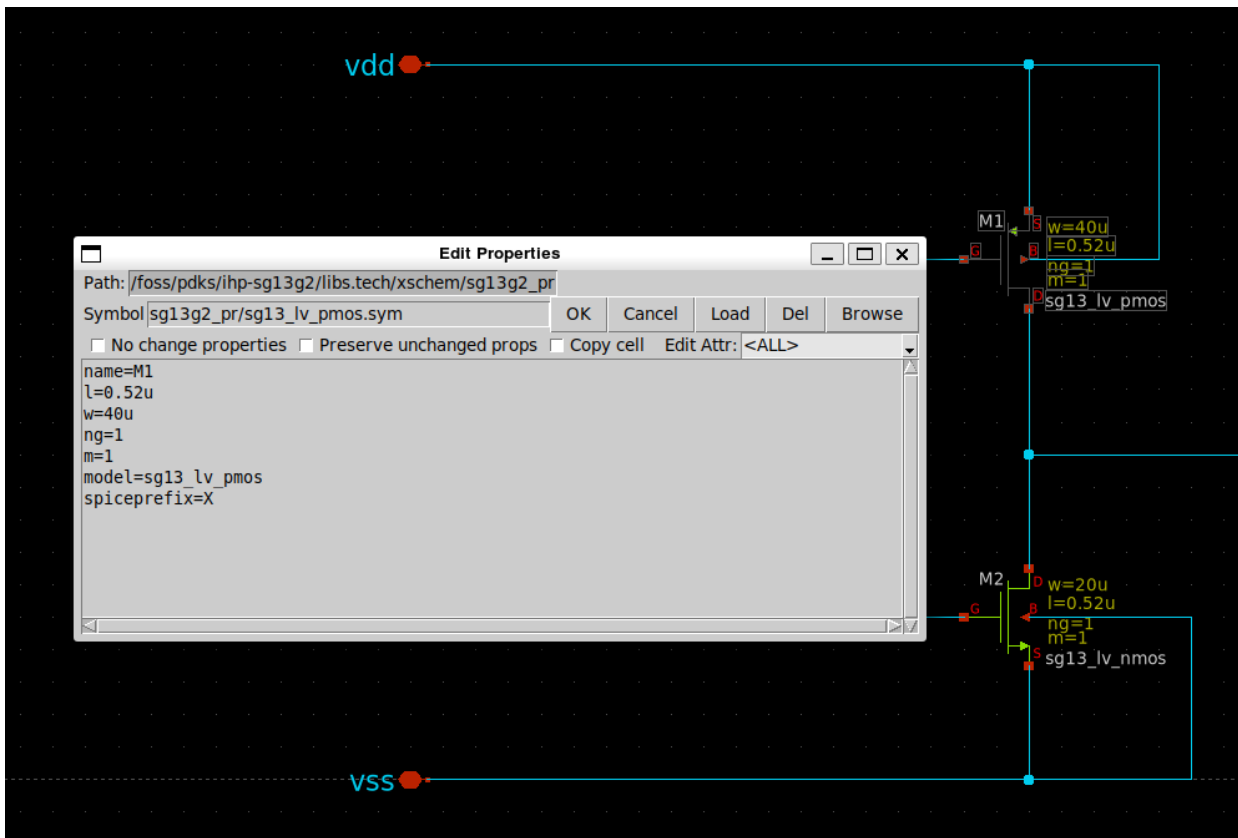

Figure 2: Xschem Entry.
5. customize the transistor's dimensions (select the symbol, right click on it and edit its properties) refer Figure 2